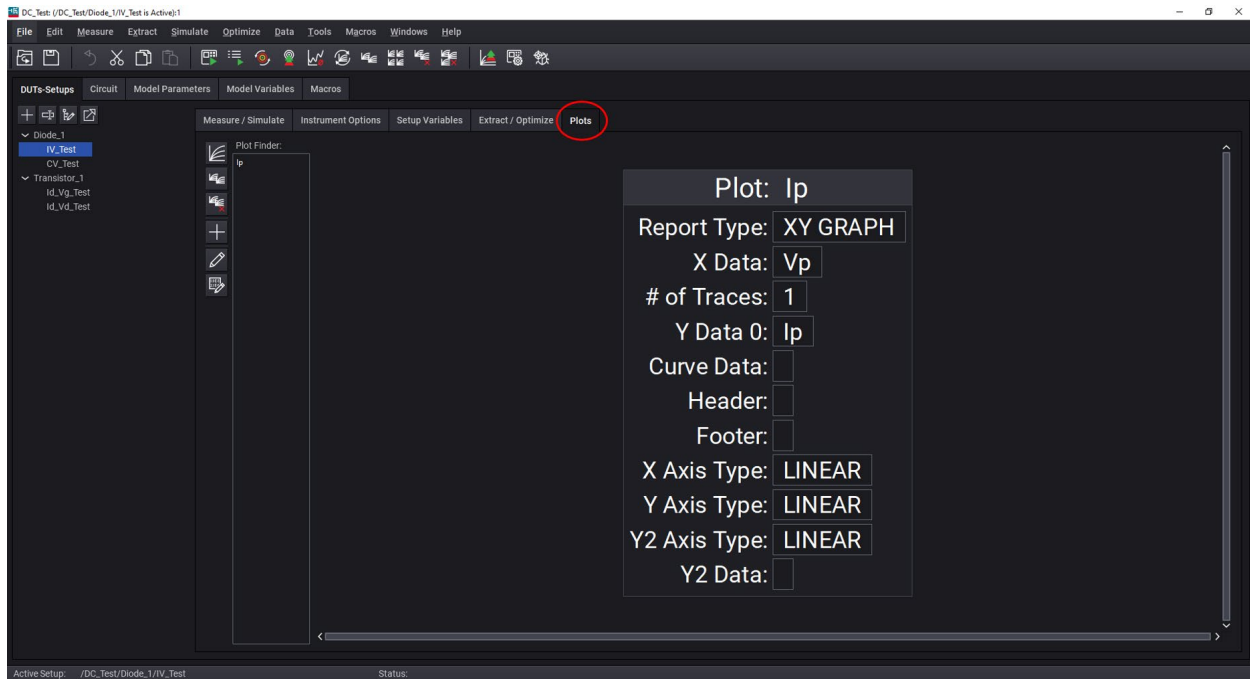
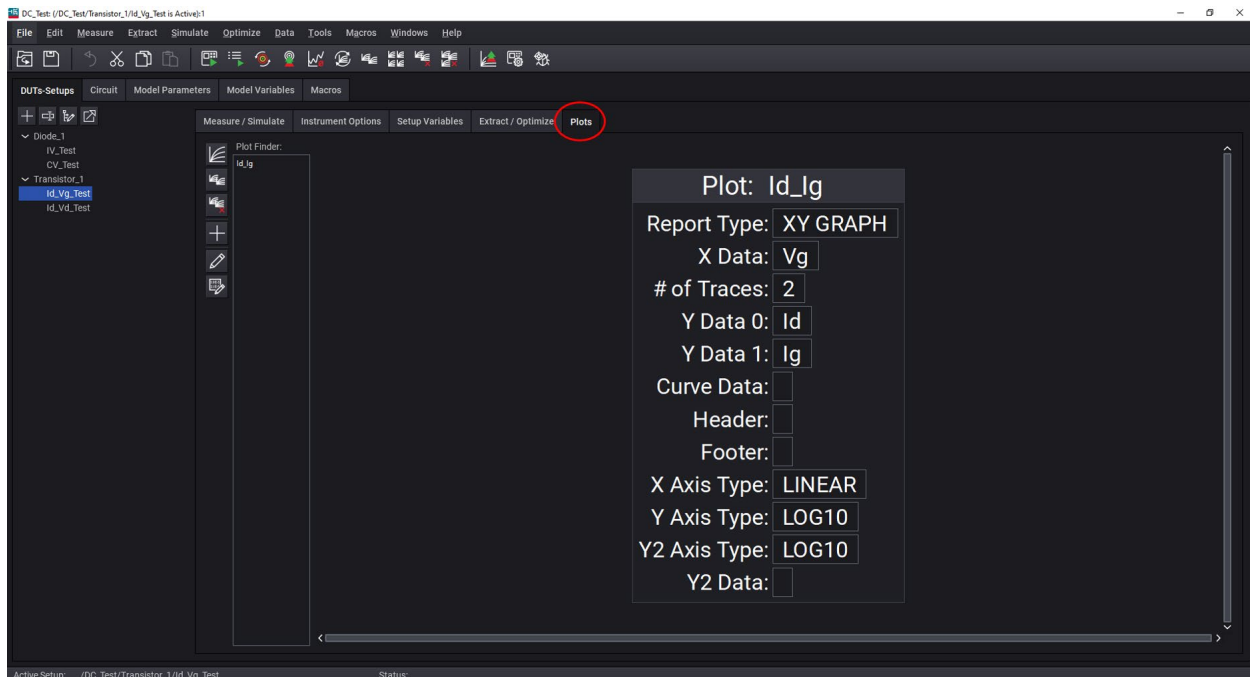
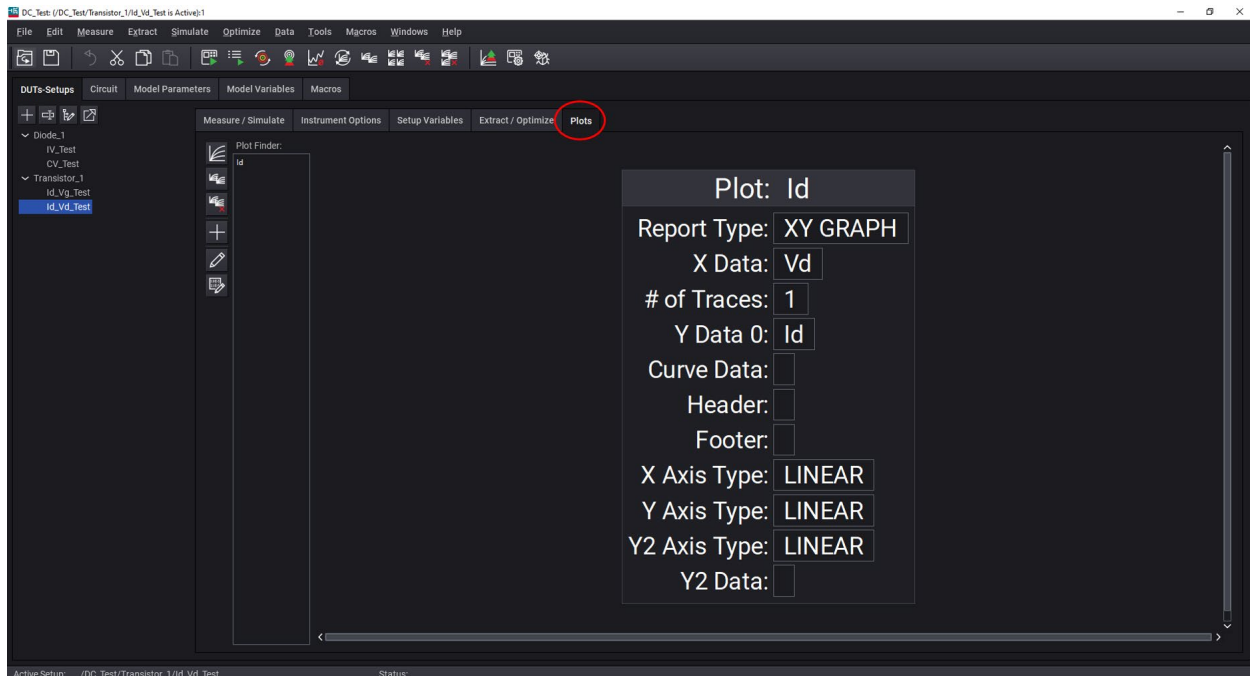

Fig. 3.5. Plotting the I-V characteristic measured on a diode.
Fig. 3.6. Plotting the transfer characteristic measured on a transistor.
Fig. 3.7. Plotting output characteristics measured on a transistor.
- 3.10 After the cursor stops spinning and the message "Measure Complete" appears, you can click on "Plots" on the top menu to check the result. Fig. 3.5 illustrates the setup for plotting an I-V characteristic of a diode in an XY graph. Fig. 3.6 and Fig. 3.7 illustrate the setups for plotting the transfer and output characteristics, respectively, of a transistor. Again, you can customize them or copy/paste/double-click to setup another plot.